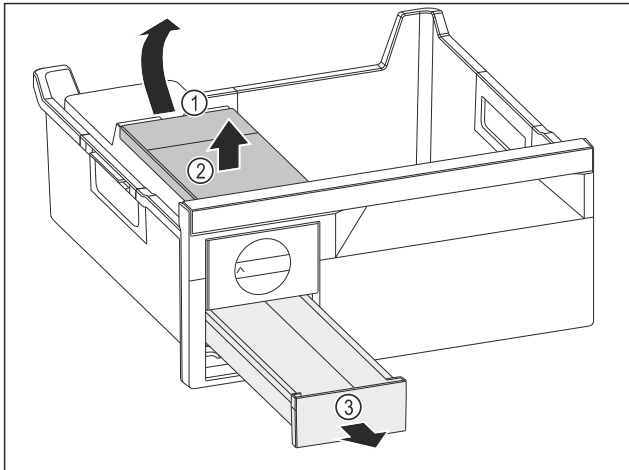

Fig. 67
- ▶ Removing the water tank: Lift the water tank by the recess Fig. 67 (1).
- ▶ Remove the water tank Fig. 67 (2) upwards.
- ▶ Remove the ice cube drawer Fig. 67 (3) to the front.